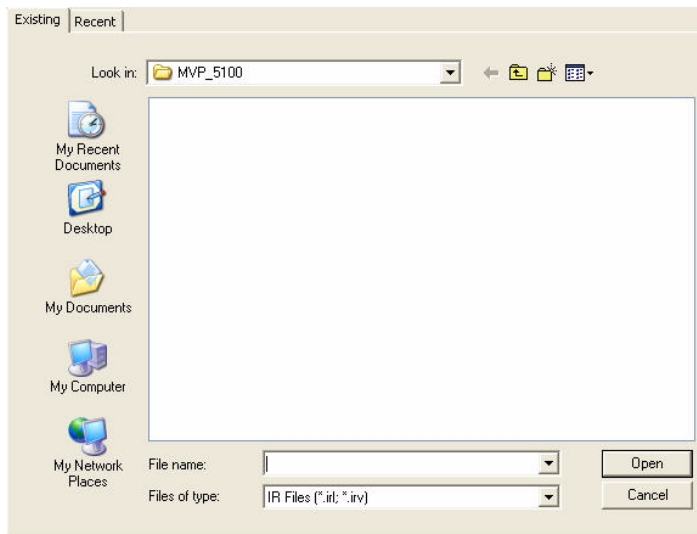

FIG. 78 Add Existing IR File window
- In the NetLinx Studio Workspace, select *Add Existing IR File...* to open the *Add Existing IR File* window (FIG. 78).